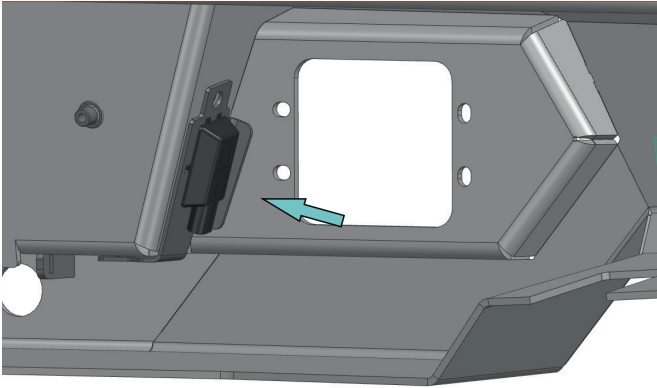

Fig. 23
25. Install brackets for license plate lights (item 3,4) with LED lights into the bumper body (item 1) using screws M6 and washers 6 (item A, E) (Fig.23,24).